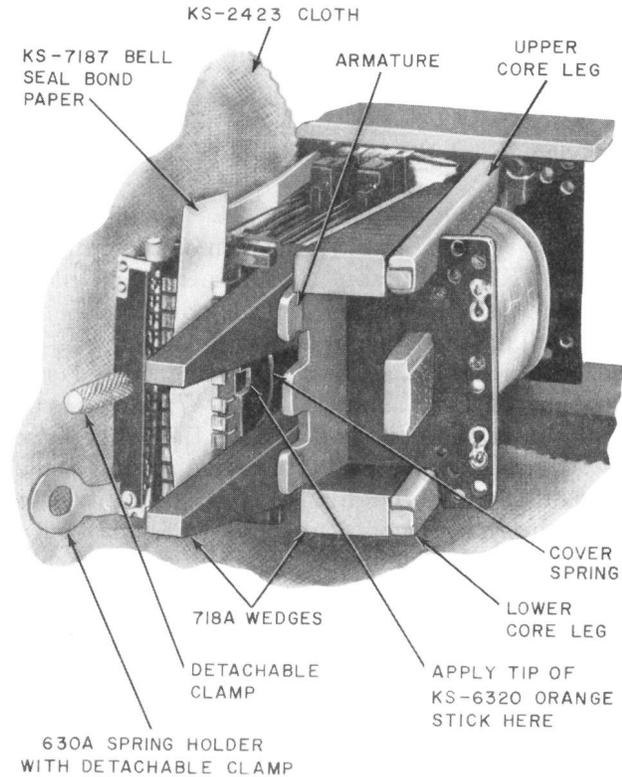

Fig. 35—24-Position Relay—Coil Removal Tools Mounted in Place
- (b) Insulate the right row of contacts (positions 13 through 24) by inserting a KS-7187 Bell seal bond paper vertically between the movable and fixed contacts as shown in Fig. 35.
35), and carefully move the spring assembly to the left. Avoid touching the fixed contact springs with the orange stick. Hold a wedge at the small end with the parallel sides vertical, and insert it between the lower portion of the armature and the cover spring until it stops against the coil spoolhead. Similarly, insert a second wedge adjacent to the upper portion of the armature. These wedges, which are shown in Fig. 35, will prevent distortion of the armature springs when the second pair of wedges is inserted between the armature and core legs.
- (c) Insert a second pair of 718A wedges between the armature and core legs as covered in 4.30(d) and as shown in Fig. 35.